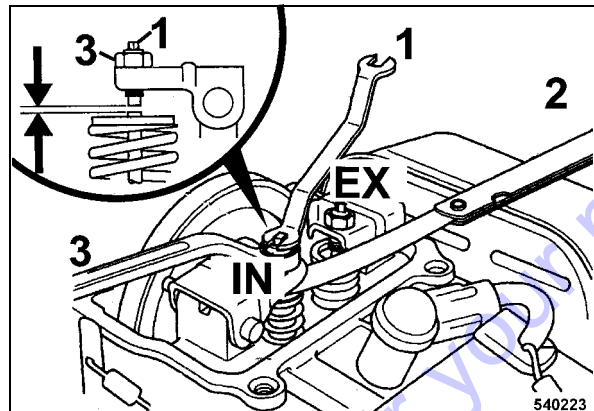

Fig. 49
- Measure the valve clearance with a feeler gauge (2) (Fig. 49).
- To adjust the valve hold the valve adjustment screw (1) and loosen locking nut (3).